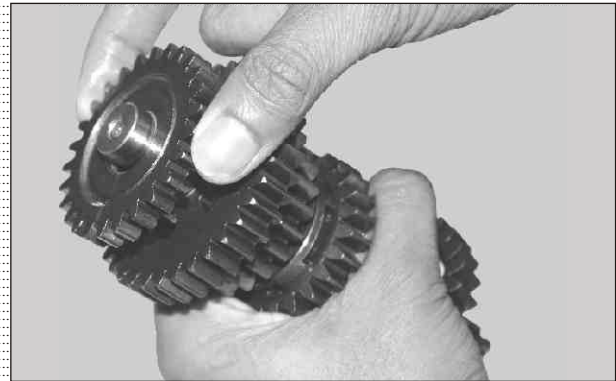

Fig. 3.111
- Take out gear complete kick starter idle. (Fig. 3.111)